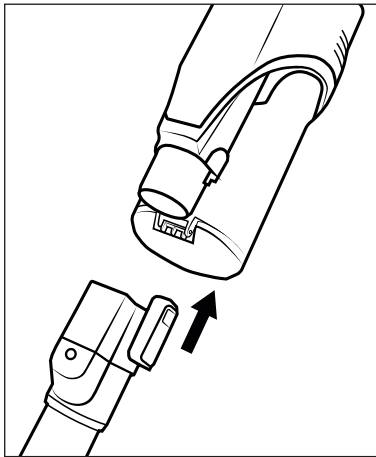

Fig. 1
- 1) Push the suction pipe **24** onto the appliance until it audibly clicks into place (see Fig. 1).